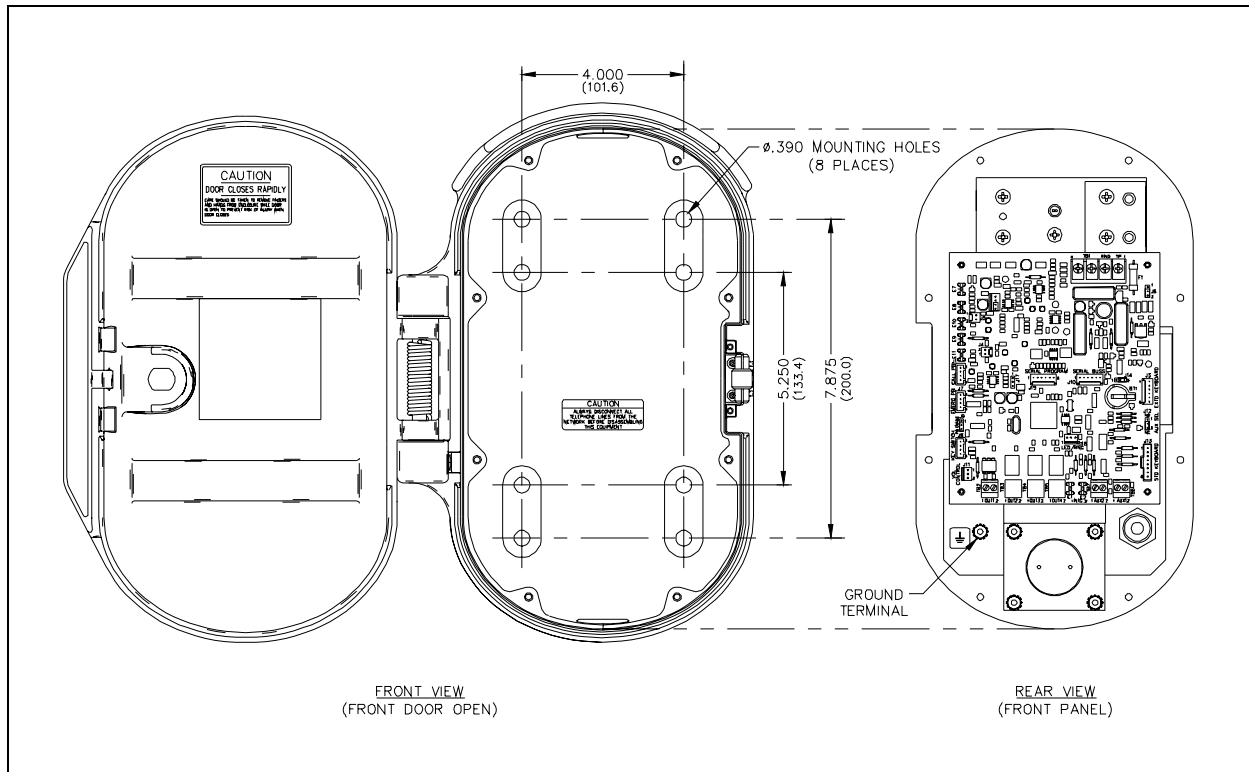

Figure 5. Model 227-003 Mounting Details
2. There are eight mounting holes in the back of the enclosure in two 4-hole patterns. Determine which hole pattern will be used for mounting. See Figure 5.